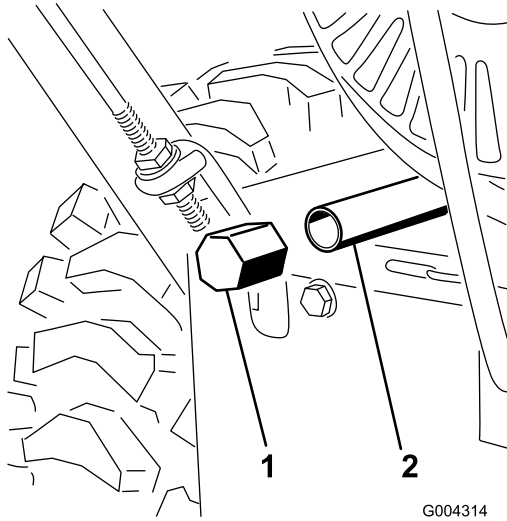

Figure 32
3. Clean the area around the oil drain plug (Figure 32).
4. Slide an oil drain pan under the drain extension and remove the oil drain plug (Figure 32).